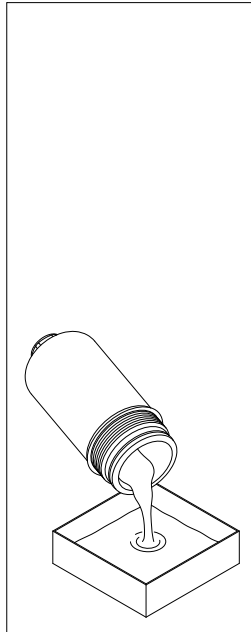

fig. 5
- (Fig. 5) Empty the operating fluid from the bowl into the collection vessel